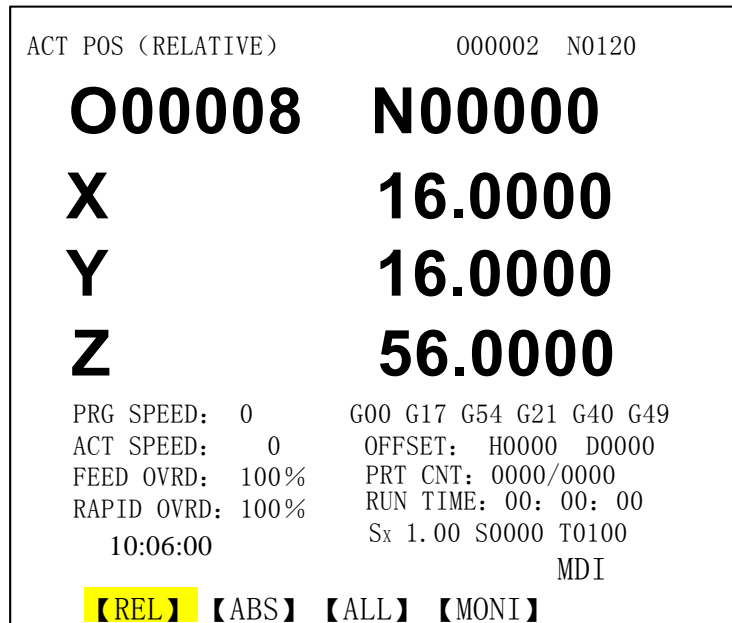

Fig. 3-1-5
The programming speed, the actual speed, feedrate and rapid override, G codes, tool offset, run time, part number, spindle override, spindle speed, tools etc. can be displayed in <POSITION> absolute or relative mode(see Fig.3-1-5).
2) **Clearing operation:** Press and hold “X” key till X in the display flickers, then press  key, the relative coordinate in X axis will be cleared; (Fig. 3-1-5)